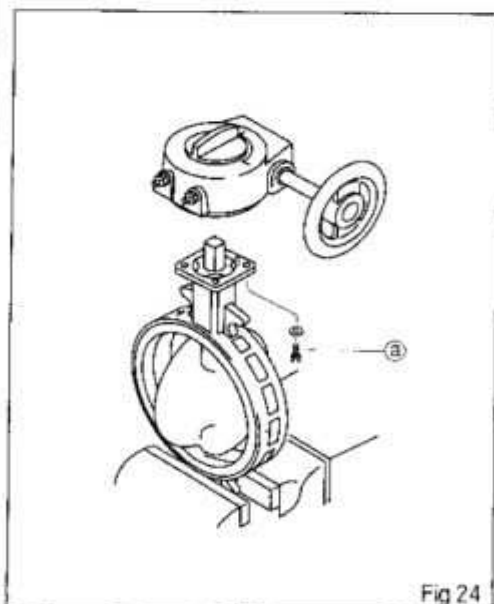

Fig 24
2. Gear operation type (Fig 24)